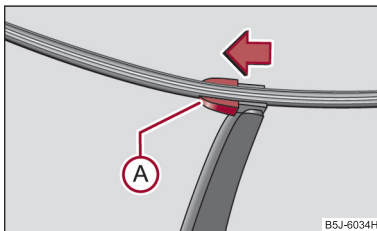

Fig. 48 Wiper blade for rear window
- Fold windscreen wiper arm out from the windscreen and position the wiper blade at right angles to the wiper arm ⇒ fig. 48.